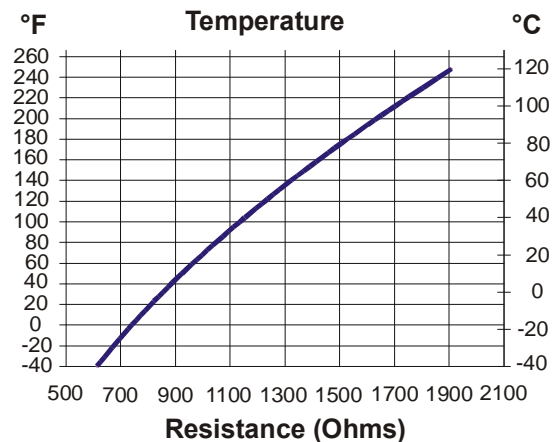

Figure 7: Temperature vs. Resistance Chart for the A99B Series Sensor
- d. Refer to Figure 7 to determine the optimal resistance for the measured temperature.
- f. If the sensor's resistance conforms to the chart in Figure 7, reconnect the sensor to the control.